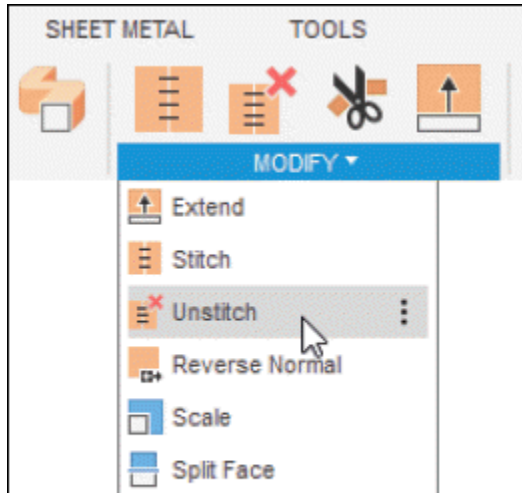
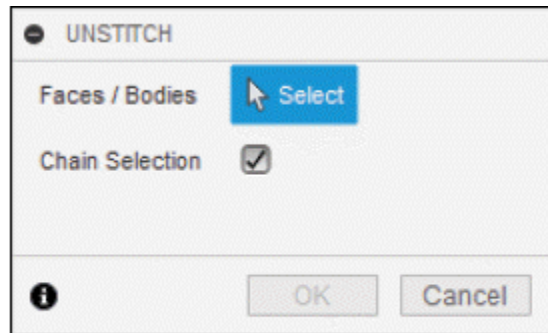

Figure-29. Unstitch tool
Figure-30. UNSTITCH dialog box
- Click on the **Unstitch** tool of **MODIFY** drop-down from **Toolbar**; refer to Figure-29. The **UNSTITCH** dialog box will be displayed; refer to Figure-30.